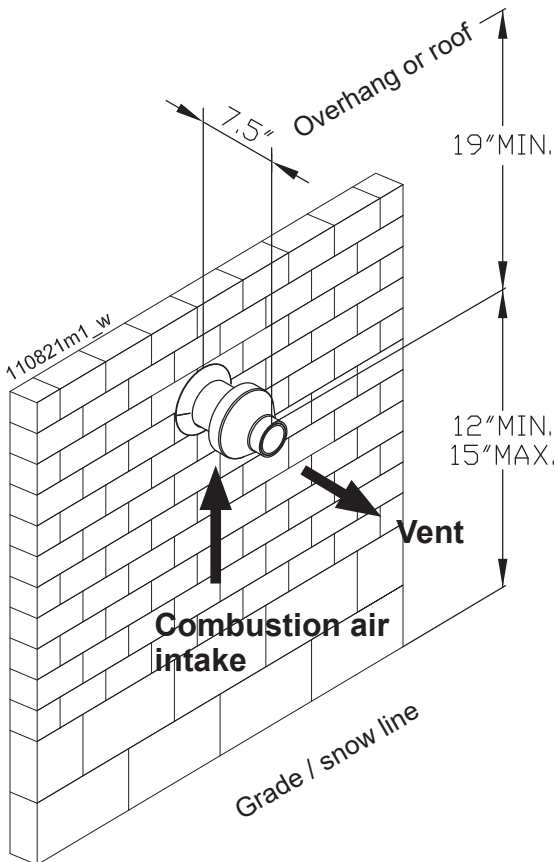

Figure 12-18 Concentric sidewall termination clearances
The termination kit must terminate outside the structure and must be installed as shown in Figure 12-18.
1. Determine the best location for the termination kit (see Figures 12-18 and 12-19).
4. Cut one (1) hole 5 inch diameter into the structure to install the termination kit.
NOTICE! Ensure termination location clearance dimensions are as shown in Figures 12-18 and 12-19.